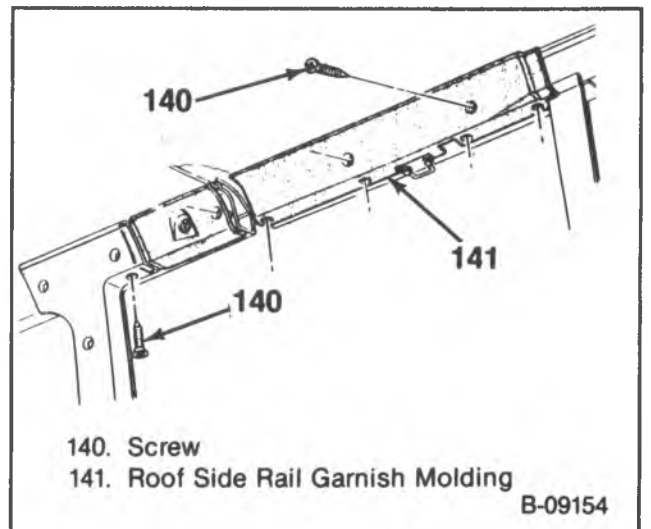

Figure 49 — Roof Rear Rail Garnish Molding
5. Roof side rail garnish molding (figure 49). For vehicles with intermediate doors only.
10. Roof side rail garnish molding and screws (figure 49). For vehicles with intermediate doors only.